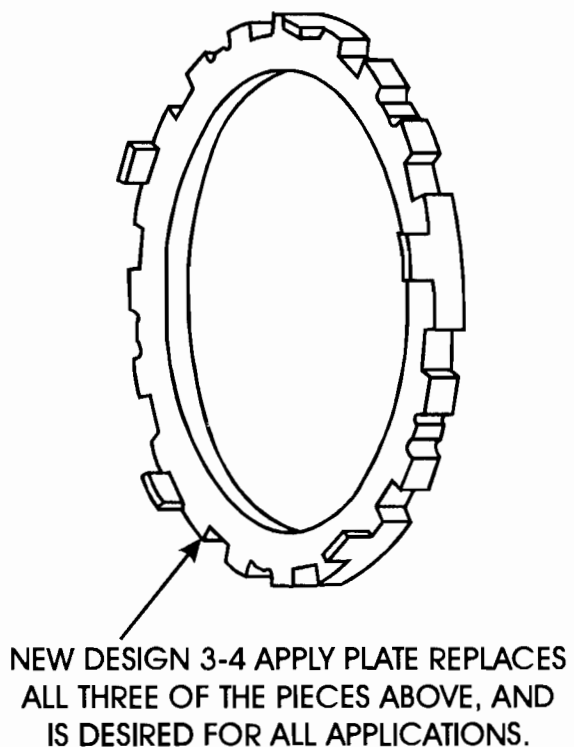

Figure 2
2. New design one piece 3-4 Apply Plate (See Figure 2).